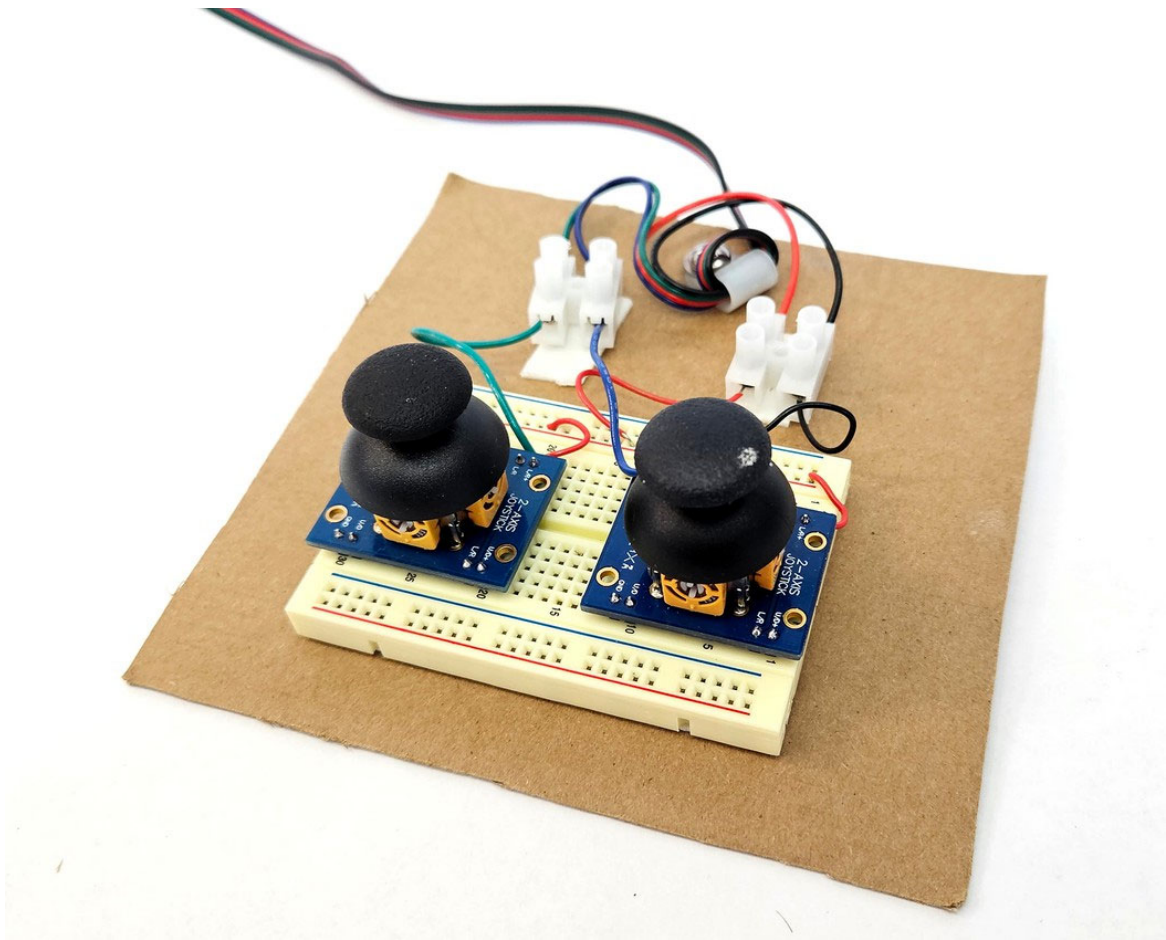

Figure 13. A simple controller made from cardboard.
10. You may wish to build a handheld controller for your ROV so you are not just holding a breadboard. Figure 13 shows a very simple cardboard base for the controller. It uses screw terminals to connect the flexible tether wires to solid core jumper wires from the breadboard, and a cable clip to prevent the tether from pulling directly on the screw terminals. Note that your hands will probably get wet while handling the ROV, so while simple, cardboard may not be the best choice for a controller!